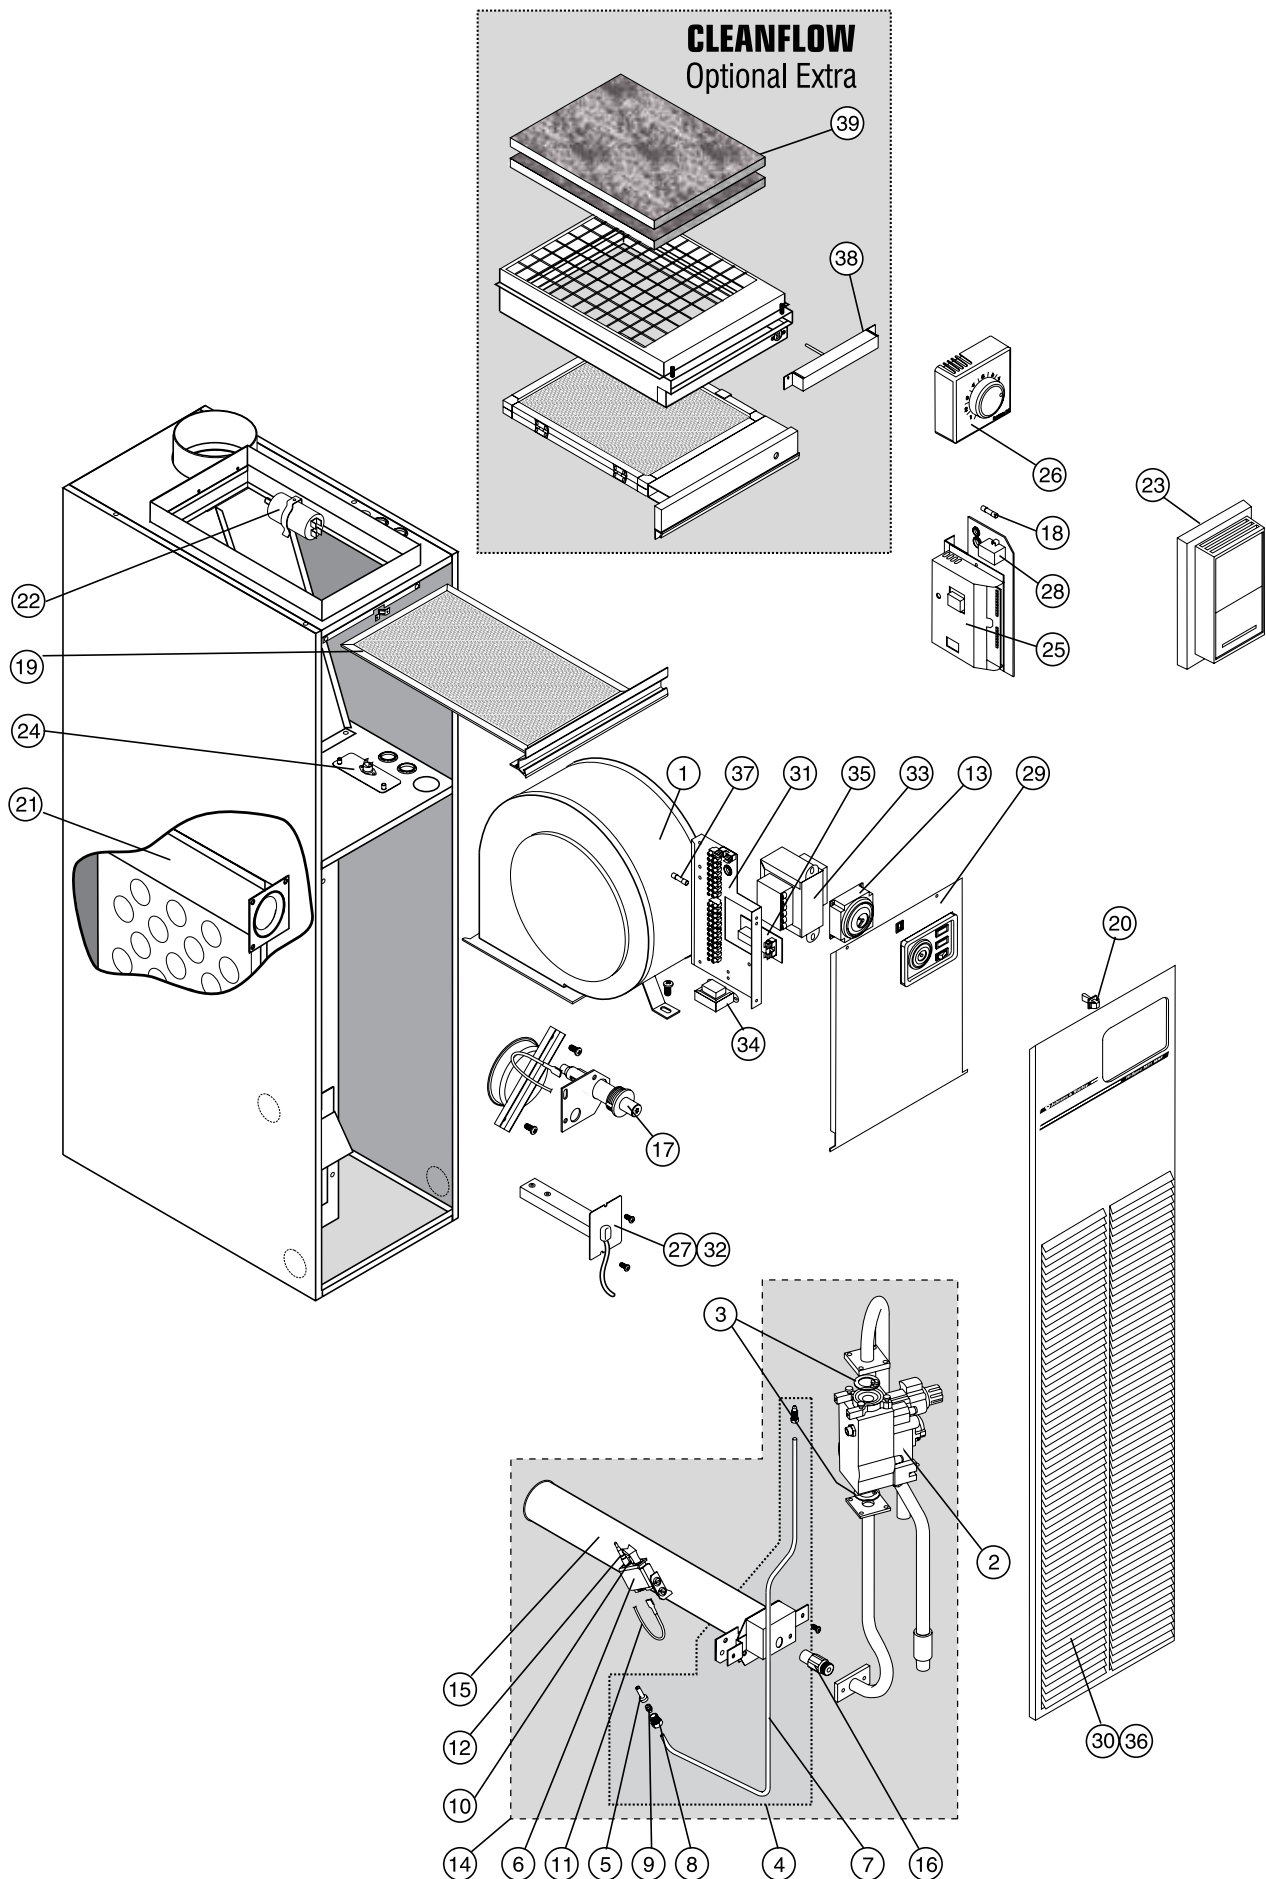

FIGURE 8. HI-SPEC M31 EXPLODED DIAGRAM
14. LIST OF SPARES (REFER TO THE EXPLODED DIAGRAM - Figure 8.)